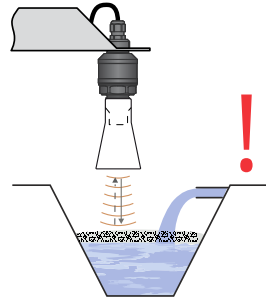

Fig. 9: Thick foam on the level
- Foam may be produced on the level of the measured liquid during filling, mixing and other processes. The thick foam significantly absorbs the ultrasound signal and may cause malfunction of the device (Fig. 9). In those cases it is necessary to set "SENSITIVITY" to the value "HIGH" and test the level meter in advance, or contact the manufacturer. In case of a thin layer of foam, it is also possible to use directional horn for improving receipt of the reflected echo.